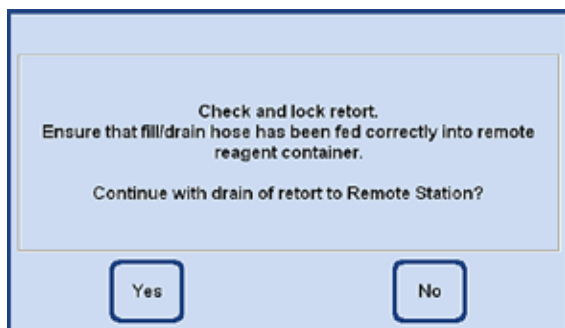

Fig. 165
- A prompt appears for carrying out the necessary preparations (Fig. 165). This must be confirmed with **YES**.